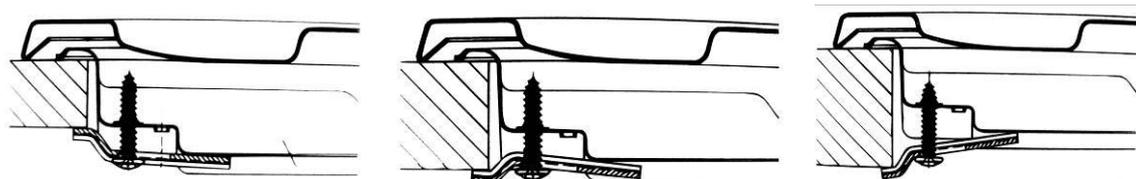

**Fig.5**
- c) The cabinets should be positioned near to the hood at a height of 420 mm at least (Fig. 5).